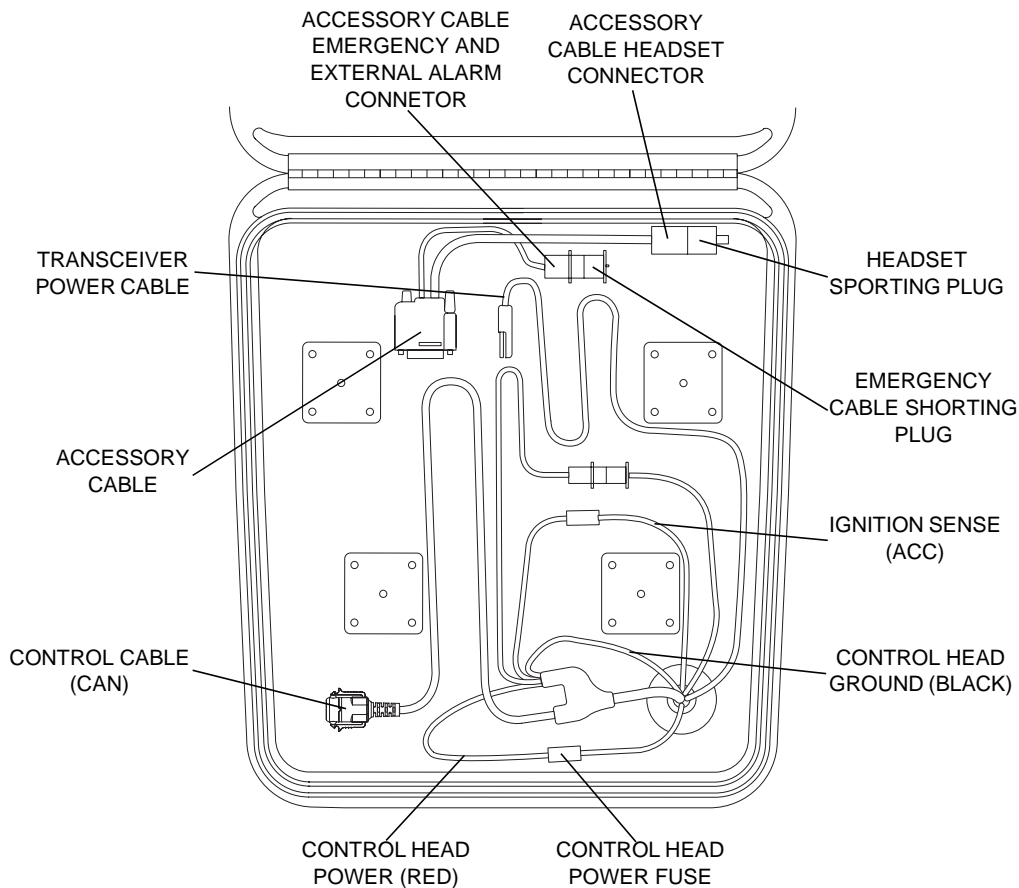

Figure 5-15. Installing Cables
2. Lay the excess cable length between the radio mounting bosses in an S configuration as shown in Figure 5-15. Do not coil any excess cable. Use the supplied tie wraps to bundle cable as shown.